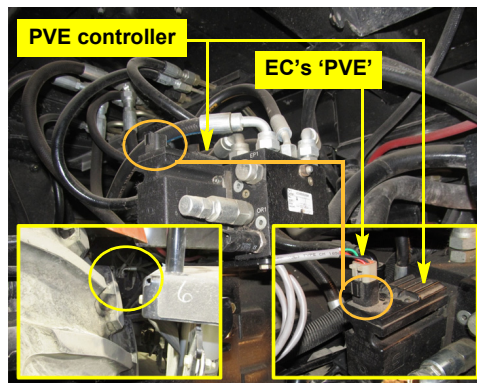

Figure 3d: Steering controller to PVE controller connection
- f. Locate the machine's PVE controller at the PVE block inboard of the front of the right rear tire (Figure 3d and insets). Connect **EC**'s branch cable labeled 'PVE' to the machine's PVE controller (Figure 3d right inset).